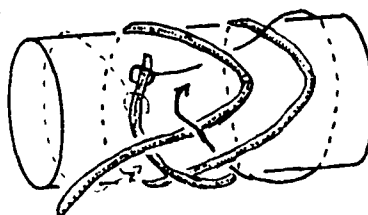

Fig 2-2
N.B. in fig. 2-2 the broken line on the far left completes the 2B x 3P ppk.